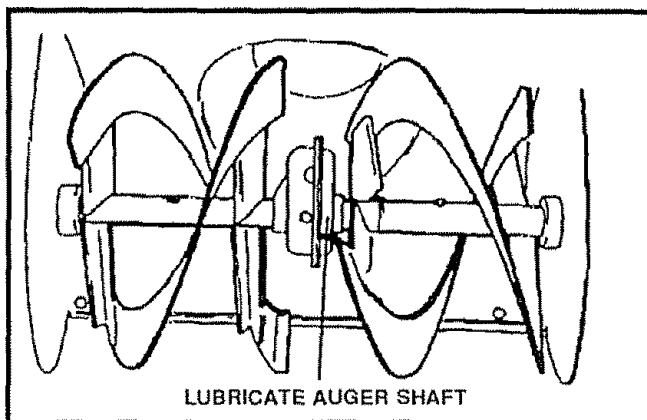

FIG. 16
- Auger Shaft - For storage, lubricate auger shaft ( See Fig 16) with a clinging type grease such as Lubriplate. When replacing shear bolts, remove shear bolts and lubricate auger shaft (see To Replace Shear Bolt paragraph on page 22).